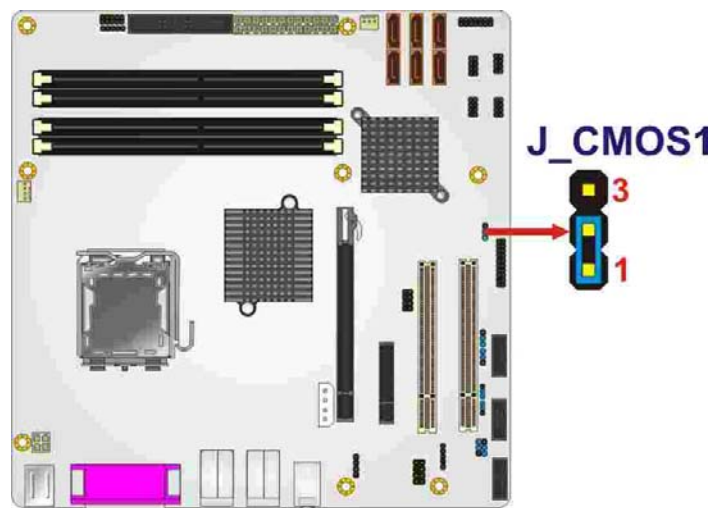

Figure 5-9: Clear CMOS Jumper
- Jumper Location:** See **Figure 5-9**
The location of the clear CMOS jumper is shown in **Figure 5-9** below.